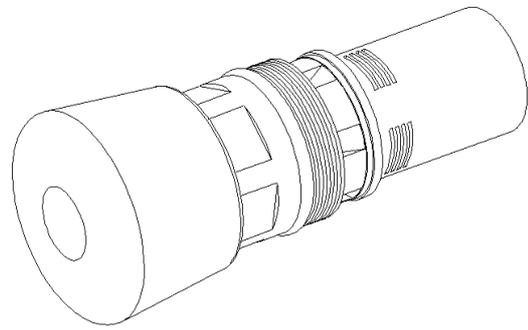

Fig. 8
3) Remove the TFC cartridge (Fig. 8) from the panel. Do not place this anywhere that it could gather dust or dirt. The cartridge is very susceptible to contamination.